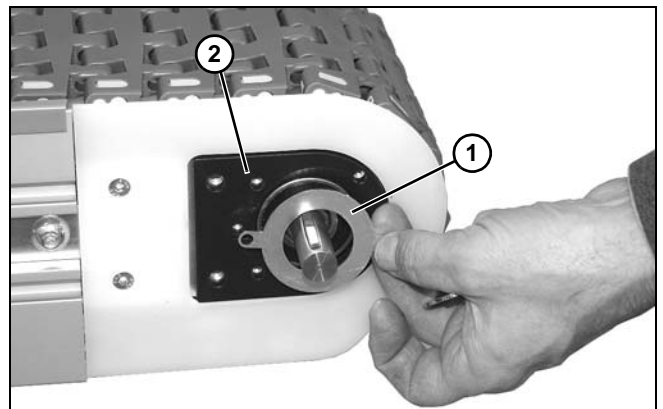

Figure 142
10. Install bearing stop plate (**Figure 142, item 1**) onto drive backing plate (**Figure 142, item 2**).